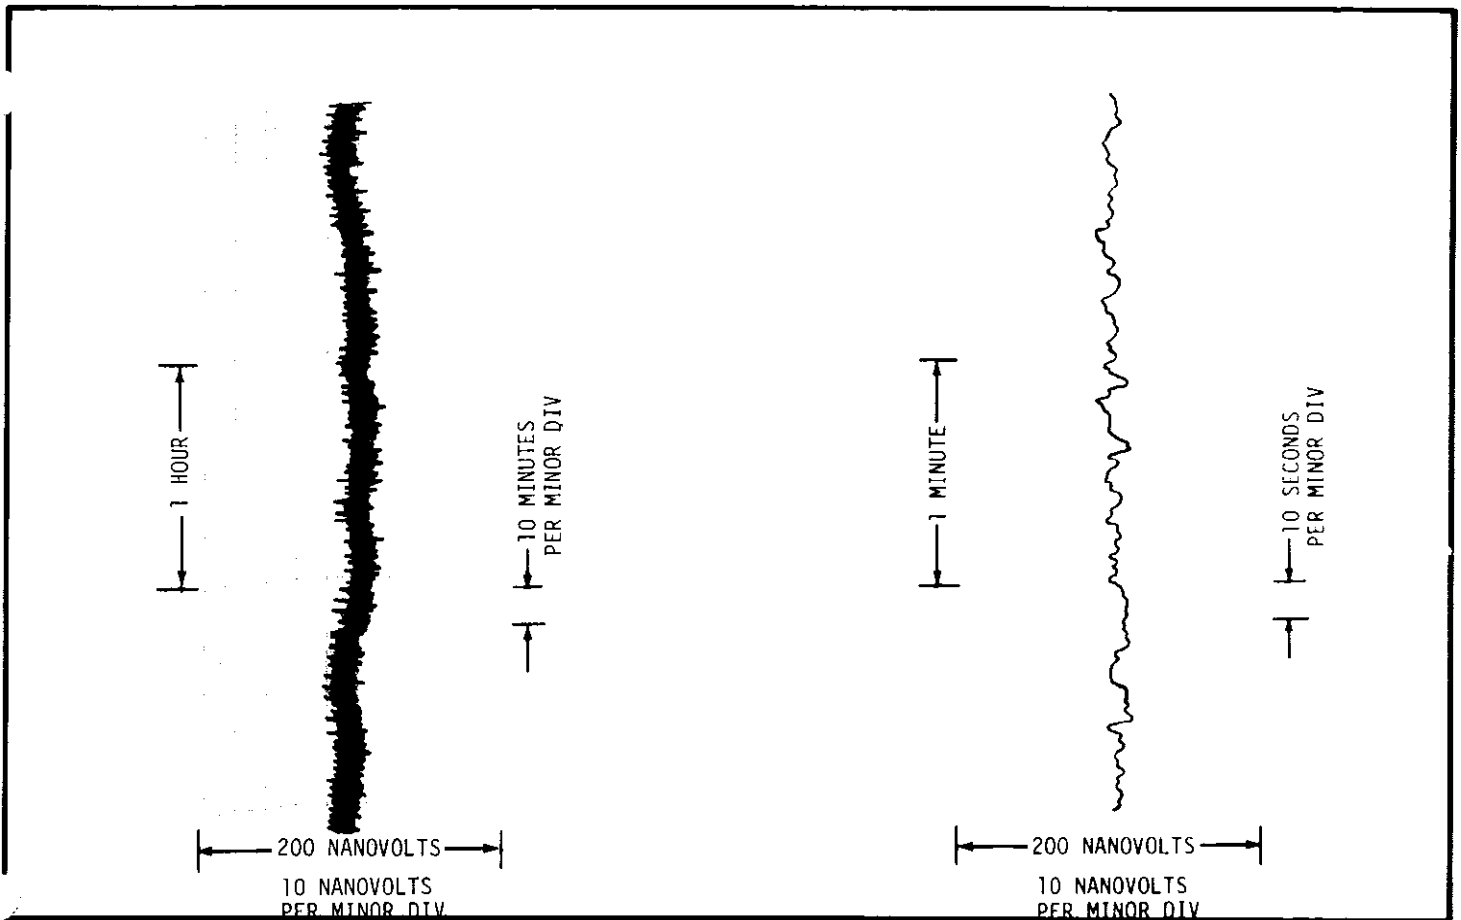

FIGURE 44a,b. Typical Drift and Noise Recordings.
4. Typical long term drift is shown in Figure 44a. This data was recorded on an Esterline-Angus chart recorder (Model 602) by monitoring the Model 180 Analog Output. Measurement was made in a laboratory with temperature controlled to $\pm 1^{\circ}\text{C}$ with very slow temperature variations.